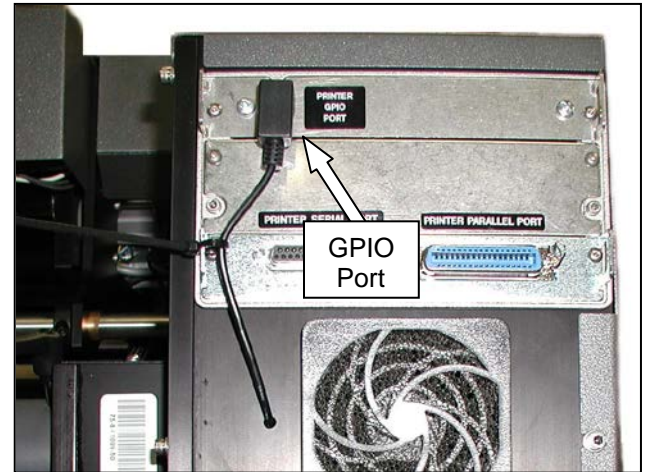

Figure 3-112. GPIO Location
7. Cycle the machine with the printer enabled. Observe the LED on top of the Relay. If the LED does not momentarily illuminate, check the wiring on pins 3 and 4. If wiring is OK, inspect GPIO connector for damage (Figure 3-112).